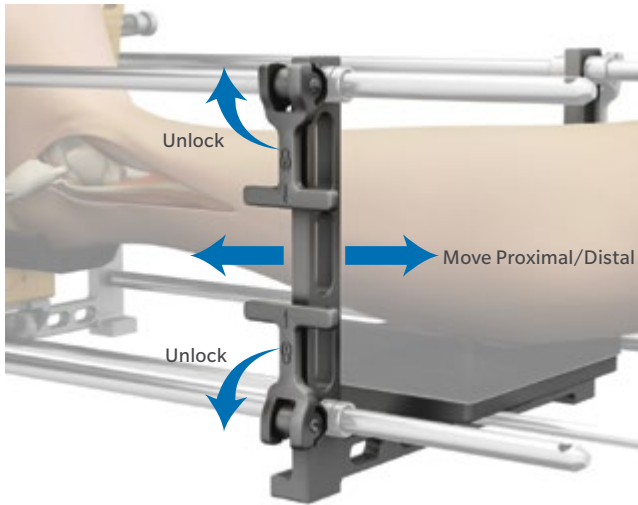

Fig. 12
- Unlock the four lever fasteners on the U-frame component on the proximal end of the Alignment Stand assembly and slide proximally or distally along the longitudinal Frame Rods until it is in position directly under the mid to proximal calf. Then relock the lever fasteners (Fig. 12).